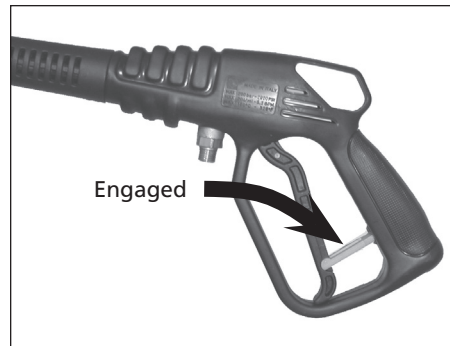

**Figure 8 – Insert spray tips into the rubber tip holder**
7. Install quick connect tips to tip holder and secure to the pressure washer handle. See Figure 8.